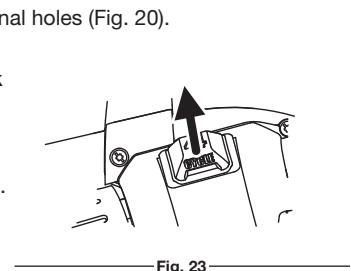

Fig. 23
- Open the spark plug cover (Fig. 23).